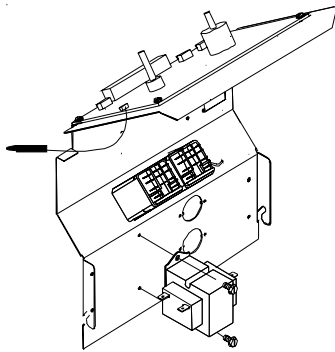

Figure 14
2. Lift the control panel up so the control panel is free of its hinges. Orient the control panel so there is easy access for mounting components to the control panel (Figure 14).